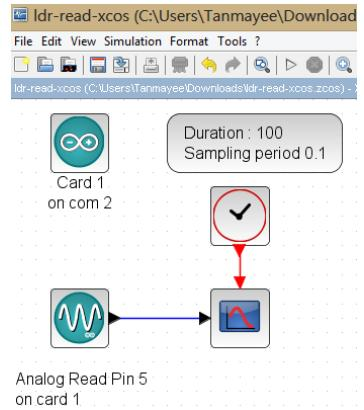

Figure 6.5: Xcos diagram to read LDR values. This is what one sees when Origin/user-code/ldr/scilab/ldr-read.zcos, see Footnote 2 on page 3, is invoked.
1. First we will read the LDR values and display it. When the file required for this experiment is invoked, one gets the GUI as in Fig. 6.5. In the caption of this figure, one can see where to locate the file.